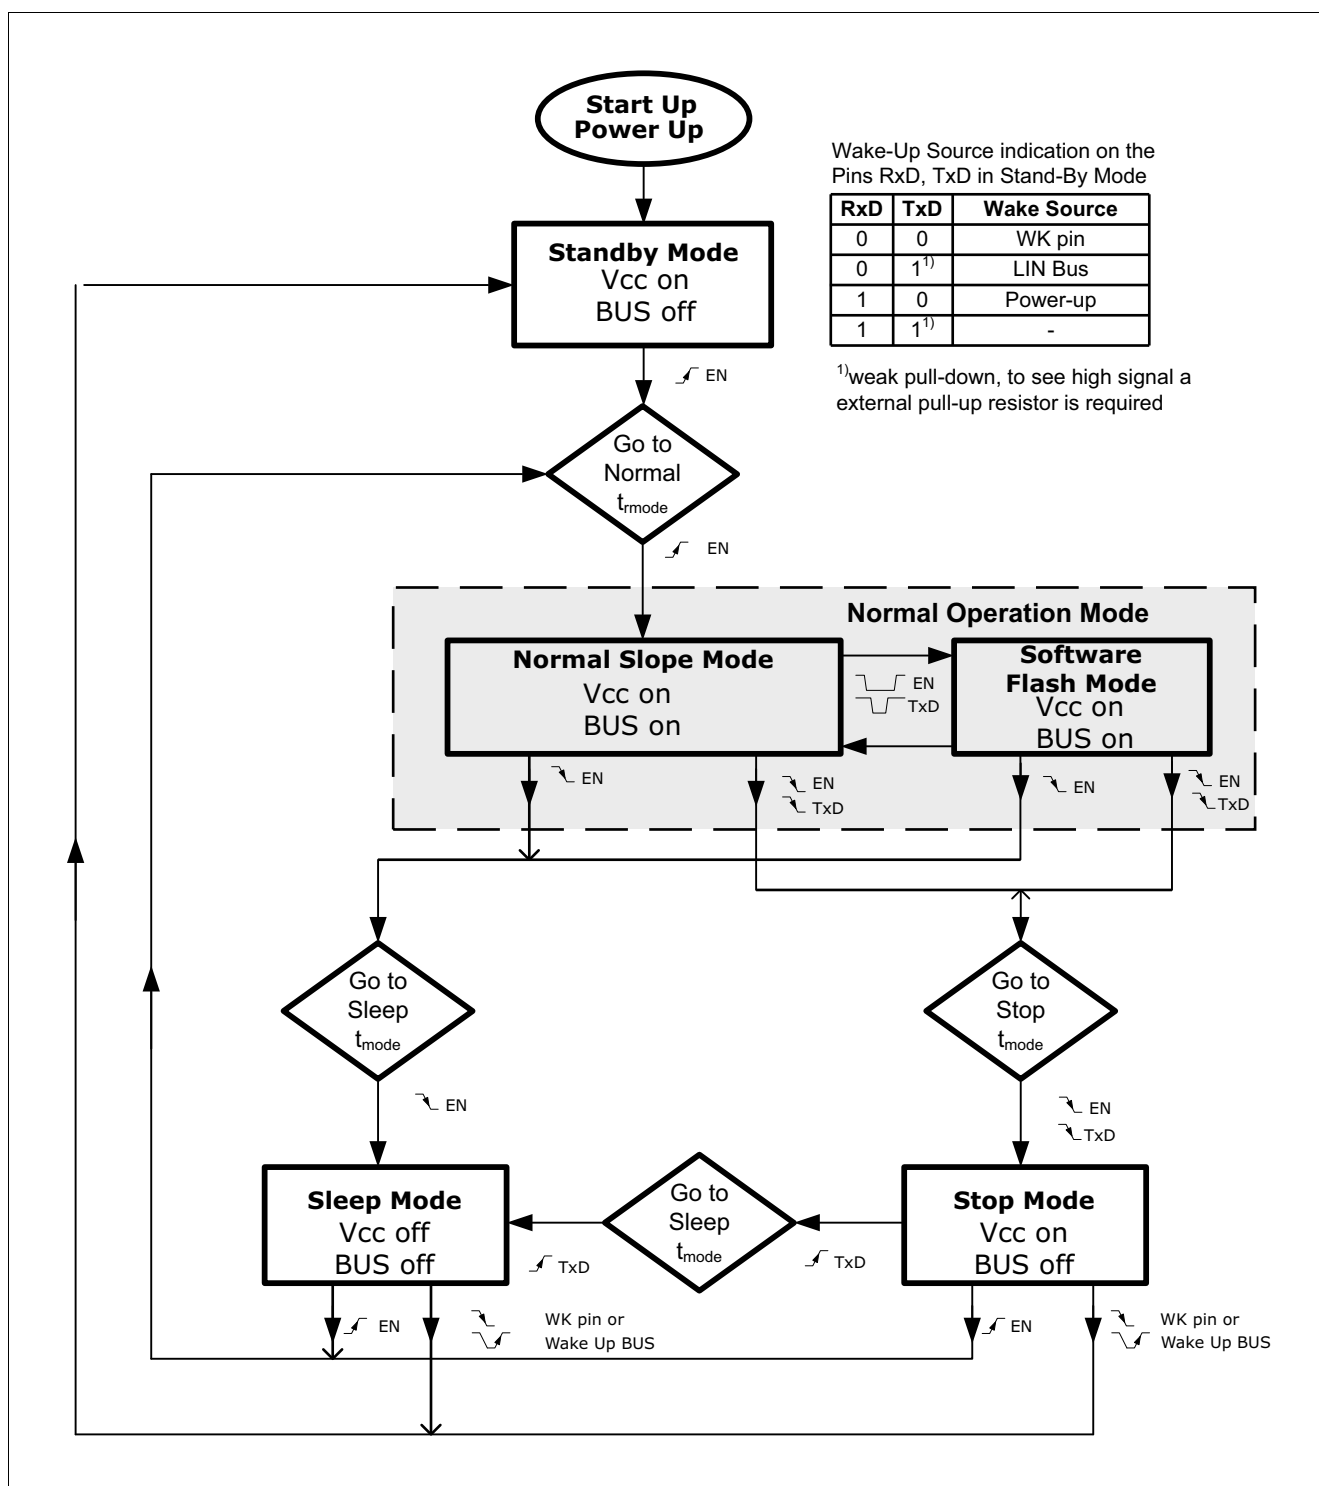
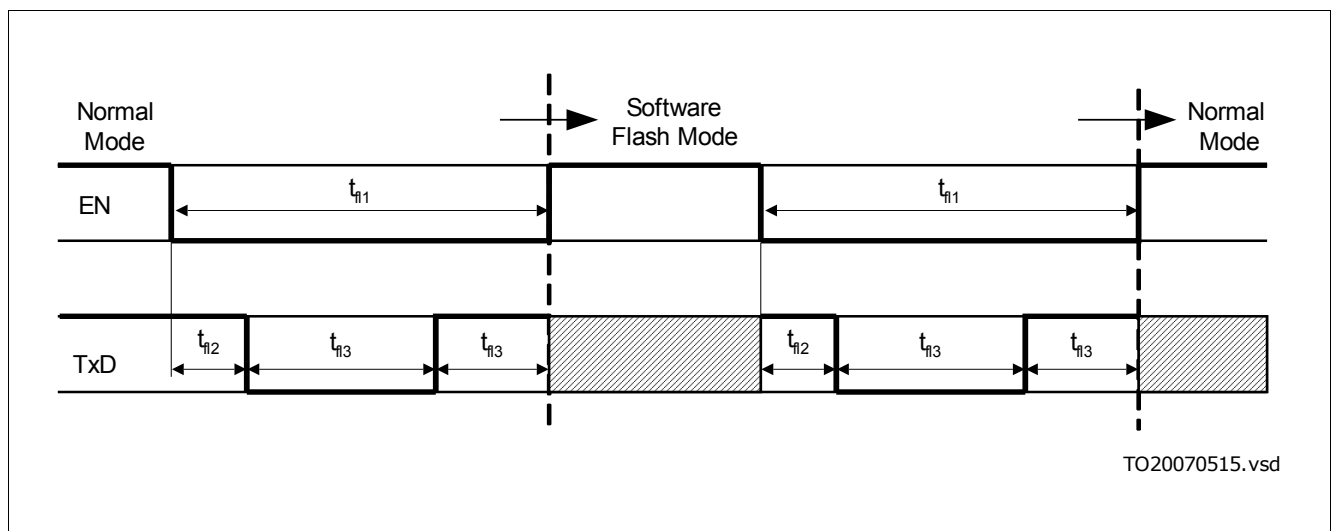

Figure 3 Operation Mode State Diagram
Figure 5 Software Flash Mode
The Normal Operation mode contains 2 sub-operation modes, which differentiate by the slew rate control of the LIN Bus signal (see Figure 3).
- The EN input pin is active. By setting the EN pin to HIGH the TLE8458 changes the operation mode to Normal Operation Mode (see Figure 3).
The Software Flash Mode can only be entered from Normal Slope Mode (see Figure 3). By setting the EN pin to low for the time t_{fl1} and by generating a falling and a rising edge at the TxD pin with the time t_{fl2} and t_{fl3} during the low phase of the EN pin, the TLE8458 changes to the Software Flash Mode (see Figure 5). Vice versa, the TLE8458 changes from Software Flash Mode to Normal Slope Mode by applying the same sequence to the EN pin and the TxD pin.